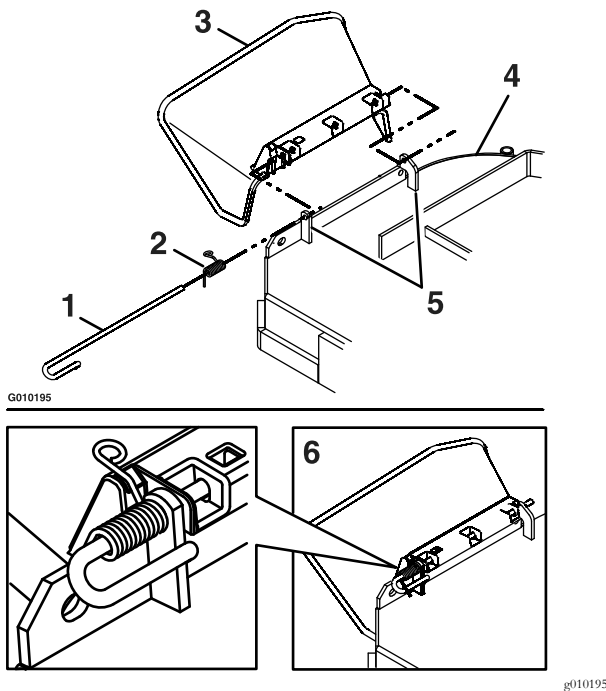

Figure 9
2. To install new discharge deflector, orient the spring on the rod as shown in Figure 9. Slide the rod through the front discharge deflector bracket, discharge deflector, and rear deflector bracket.
- Hook the bent end of the rod around the front discharge deflector bracket to retain it from sliding out. Place the leg of the spring with the loop in the notch in the discharge deflector to hold the discharge deflector in the down position (see Figure 9).